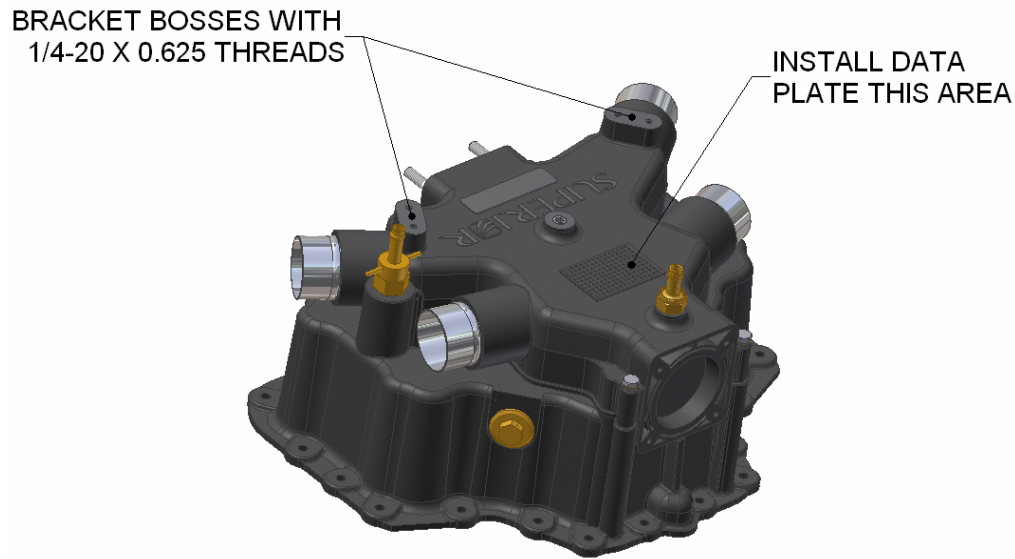

Figure 5
5. Inspect data plate part number and serial number. Clean data plate and sump assembly with acetone prior to data plate assembly as shown in Figure 5. Apply a thin film of DP-190 Gray 2-part epoxy by 3M Corp. to the data plate and assemble to the sump assembly as shown in Figure 5. Allow curing for 24 hours at room temperature or 3 hours at 180°-200° F. **Note:** Use of Data Plate is optional for Experimental Aircraft engine.
6. Two (2) bosses with 1/4-20 x .625 deep threads are provided for the mounting of installation brackets such as throttle and mixture cable supports. This is illustrated in Figure 5. It is recommended that the thread engagement used in these bosses be no longer than 0.500". The use of longer bolts may "bottom out" in the hole resulting in induction leaks.